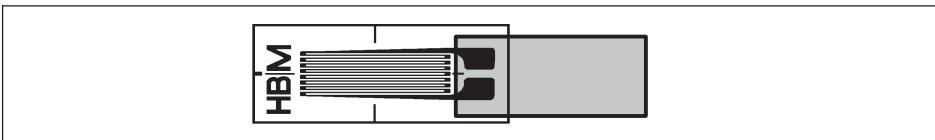

Fig. 5.3 Hinge-like connection for SGs without leads
- In strain gages without leads, create the hinge-like connection as shown in *Fig. 5.3* (without additional solder terminals).